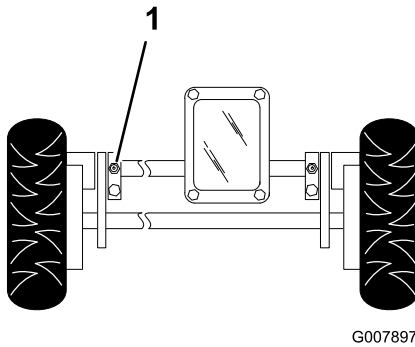

Figure 28
1. Wipe the grease fittings with a clean rag (Figure 28).